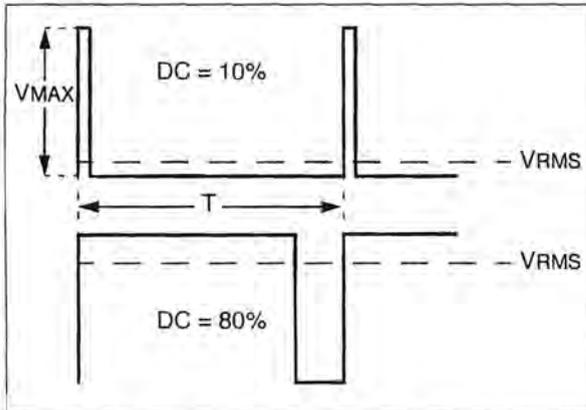

Figure 3: PWM signal
variety of tasks, from dimming LEDs to controlling the speed of a brushed DC electric motor. All these applications are based on one basic principle of PWM signals – as the duty cycle of a PWM signal increases, the average voltage and power provided by the PWM increases. Not only does it increase with duty cycle, but also it increases linearly. **Figure 3** illustrates this point more clearly. Notice that the RMS and maximum voltage are functions of the duty cycle (DC). The following equation shows the relation between  $V_{RMS}$  and  $V_{MAX}$ .